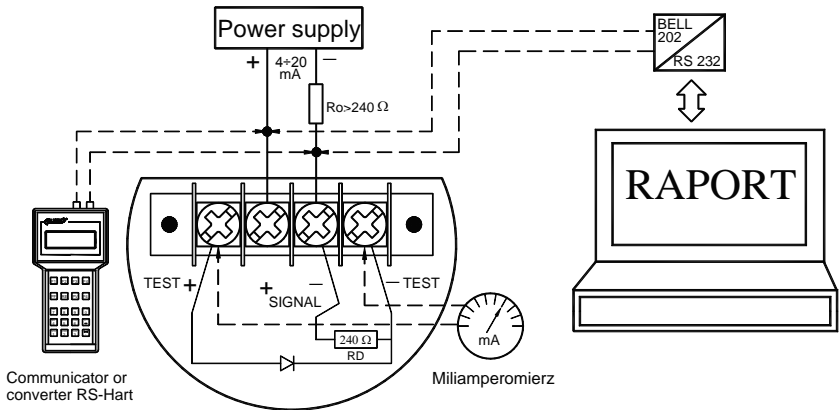
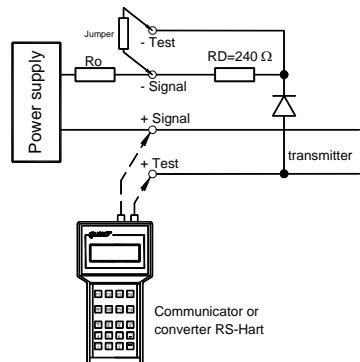

Fig. 10a
Fig. 10b
For execution of electrical connections of transmitters **APC(R)-2000ALW (Ex) Safety** see Fig. 10. Resistor  $240\ \Omega$  is serially integrated, permanently, in the current circuit of transmitter and shorted with jumper on connection terminals between <SIGNAL-> and <TEST->, see Fig. 10b. To use the that resistor in Hart communication, e.g. in the event of too low resistance in measurement loop, the jumper is to be removed.
1. When resistance seen from transmitter to the line is  $R_o > 240\ \Omega$ , then we can communicate with the transmitter via connection to line <Signal +> and <Signal ->, see Fig 10a. ( $R_o$  = line resistance + load)
2. When  $< 240\ \Omega$  communication shall not be established, and  $R_o$  is to be increased to min.  $240\ \Omega$  as in Fig.10a. Transmitter is fitted with additional communication resistor  $RD = 240\ \Omega$  (Fig. 10b). (During normal operation terminals <Signal -> and <Test -> are to be together, not to introduce additional resistance from line circuits).  $RD$  resistor is used when we want to establish local communication with transmitter (from its terminals), when  $R_o < 240\ \Omega$ . (Then terminals <Signal -> and <Test -> are to be apart).